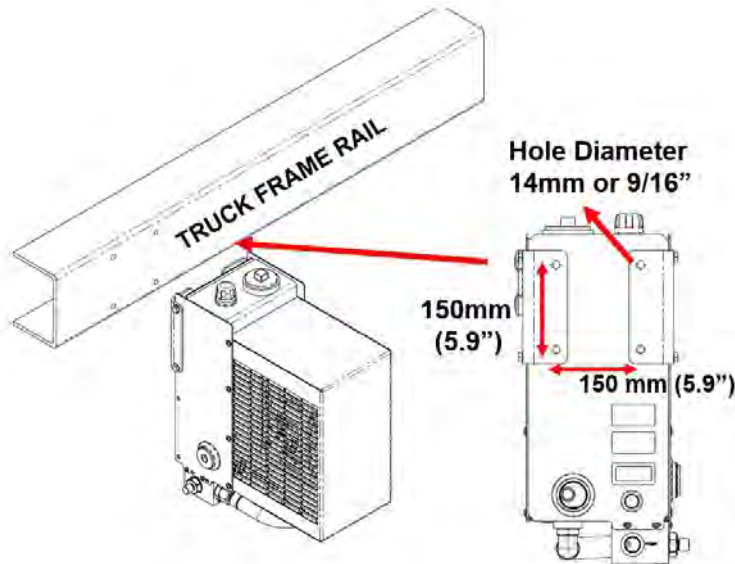

Figure 2D Installing the HCU to Frame Rail
4. Vibration isolation mounts may be required for the mounting brackets if the unit will be used for severe duty applications. AKG is able to provide center of mass and disturbing frequency information. Figure 2D shows the mounting of HCU to frame rail.